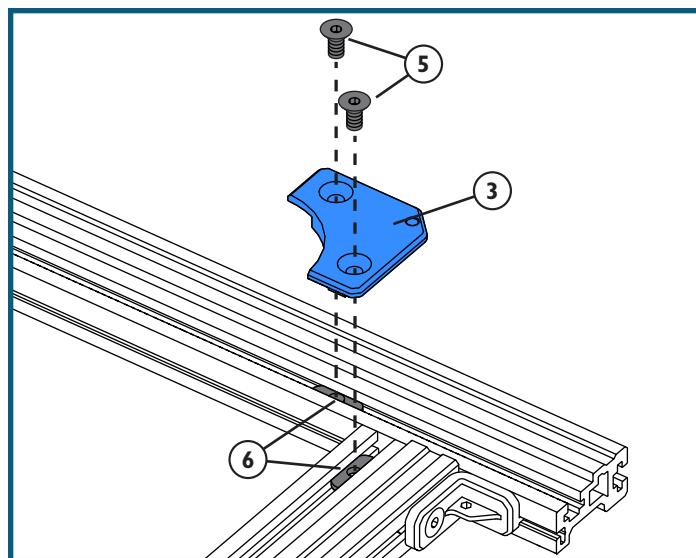

Fig. 2
1. Install a Standard Corner Guide (3, also marked with an "A") in each corner of the jig. To do this you first need to slide two Washer Nuts (6) into the top T-slot of each Rail (1). Slide the first Washer Nut almost as far forward as it will go; slide the second so it's at the intersection of the Rails. **Fig. 2.**
2. Fit the keys on the underside of the Standard Corner Guide (3) into the slots in the intersecting Rails (1) and adjust the positions of the Washer Nuts (6) to align them with the mounting holes in the guide. Insert two Flat-Head Screws (5) in the countersunk holes in the Corner Guide and thread them into the Washer Nuts. Use the included Hex Key (12) to tighten the screw that's on the same side as the screw in the Support Bracket (2); don't tighten the other now, or you won't be able to adjust the rail positions. **Fig. 2.** Install a Corner Guide in all four corners of the jig.